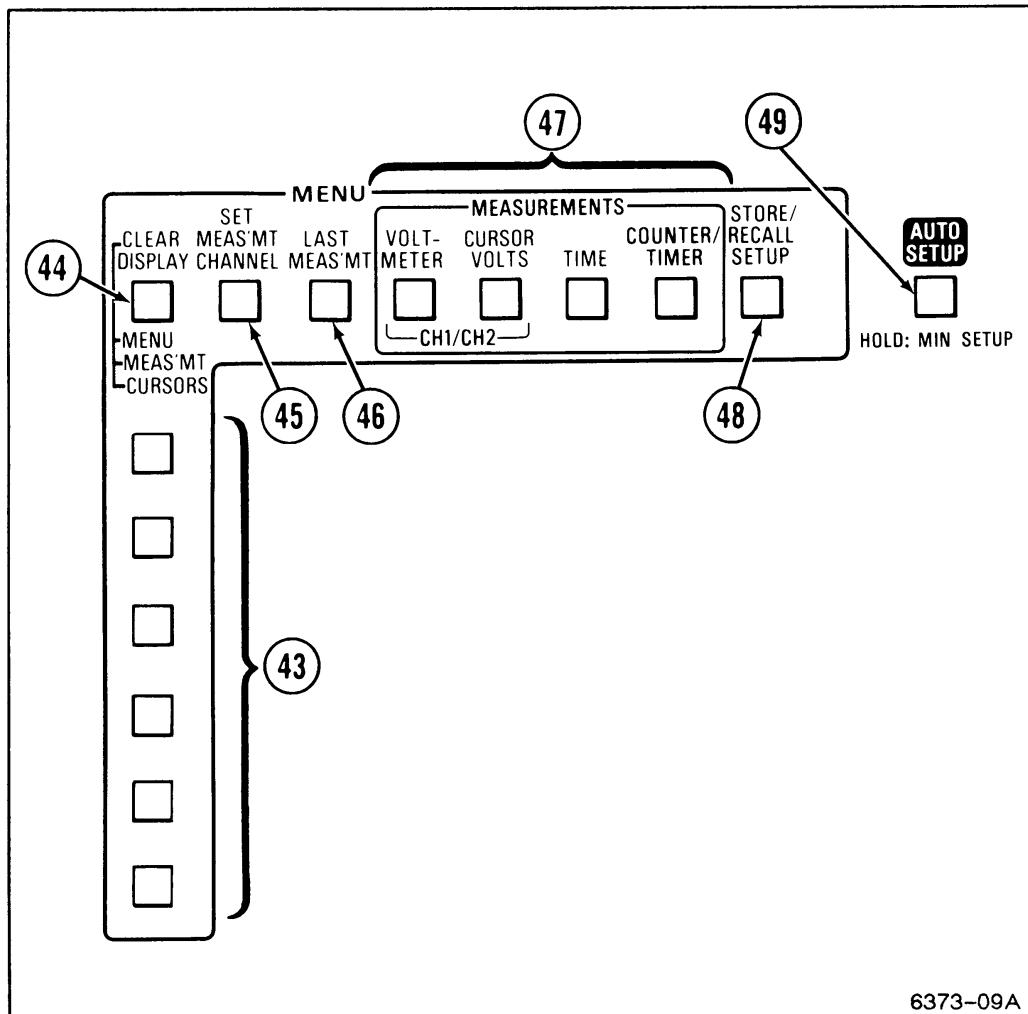

Figure 2-7. Menu controls.
Refer to Figure 2-7 for location of items 43 through 49.
- (43) **Menu Item Select Buttons**—Select items from the list displayed on the right side of a displayed menu. A Menu Item Select button that has no corresponding menu item does nothing when pressed. The menu display will clear when the item is selected (unless the SERVICE mode CONFIGURE menu is set for: KEEP MENU ON WHEN ITEM SELECTED? YES). The factory settings default is NO.